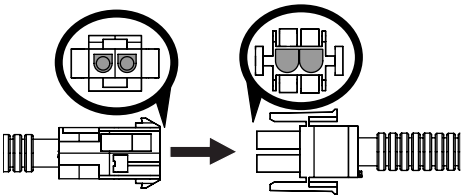

Figure 2
2. Connect the headlight harness/12V wiring harness to the main harness. Make sure the D-shape connectors align properly. See Figure 2.